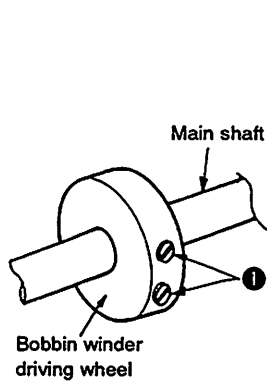
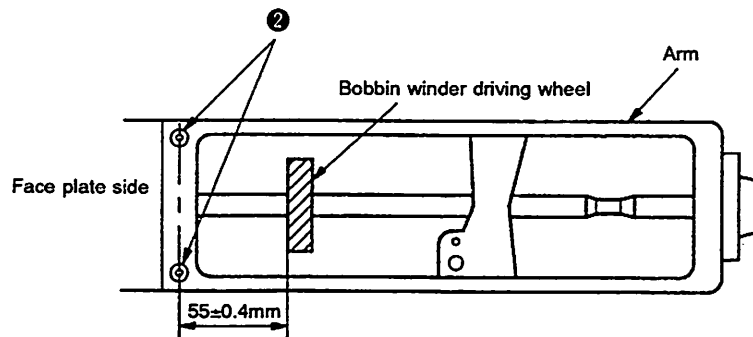

Fig. 5-24-1
Fig. 5-24-2
<ul style="list-style-type: none"> Loosen setscrews ❶, and adjust so that a 55 ± 0.4 mm distance is obtained from the end face of the bobbin winder driving wheel and the center of the top face of cover attaching tap ❷. Then tighten the setscrews so that the bobbin winder driving wheel is fixed at the position. (Fig. 5-24-1, Fig. 5-24-2) 	<ul style="list-style-type: none"> The bobbin may fail to spin or the bobbin holder may fail to actuate, even if the bobbin is set on the bobbin winder.